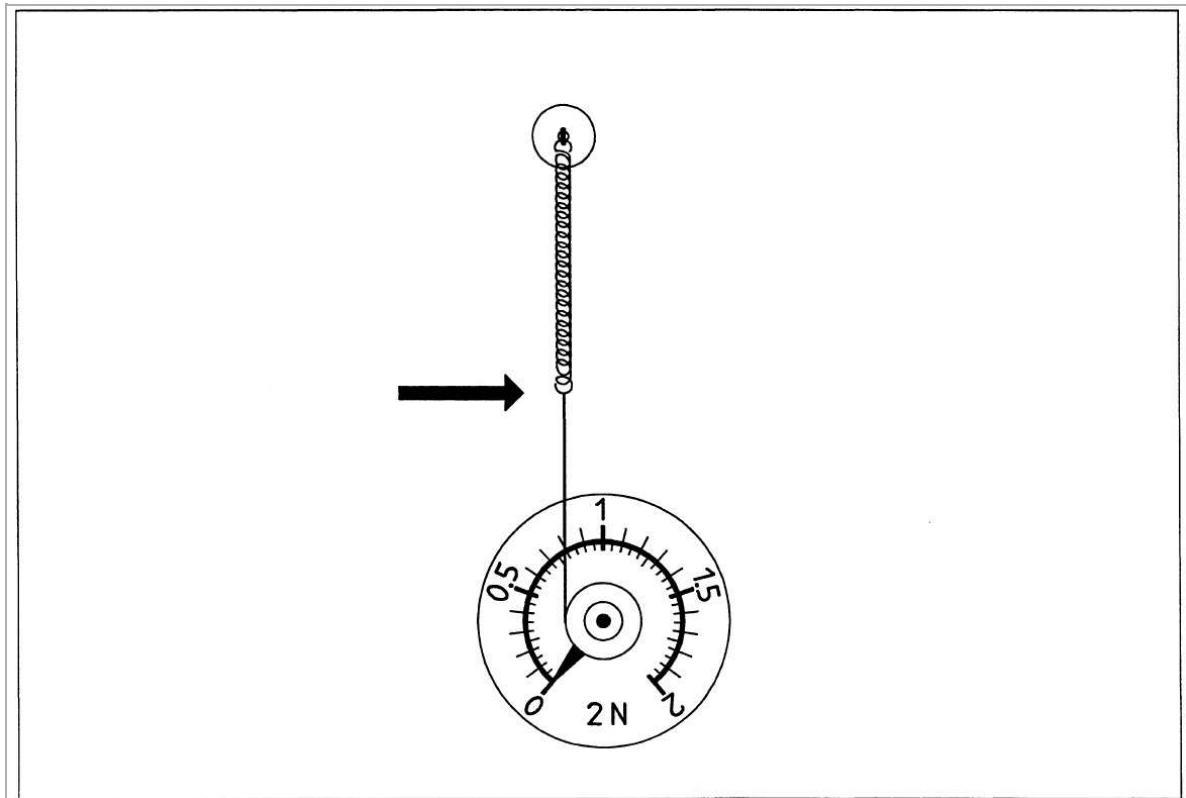

Fig. 1
- Mark the position of the lower end of the helical spring with a pointer of the demonstration board (Fig. 1).